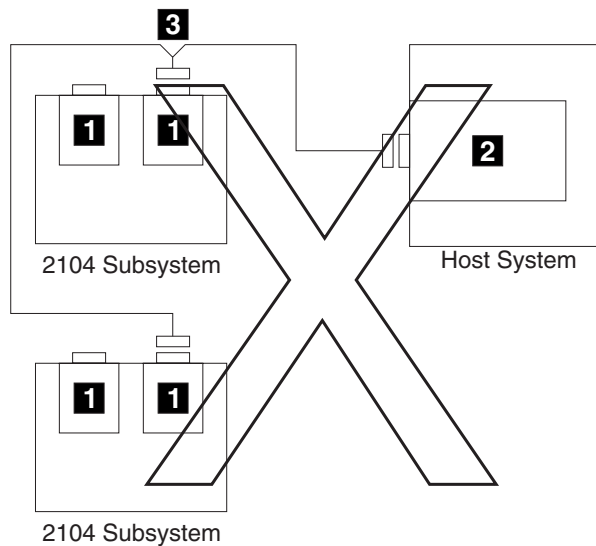

Figure 96. One adapter in one host system connected to two 2104 Model DS4 or Model TS4s through a Y-cable (1). This configuration is invalid.
Figure 96 shows one adapter in one host system connected to two 2104 Model DS4 or Model TS4s through a Y-cable (1).